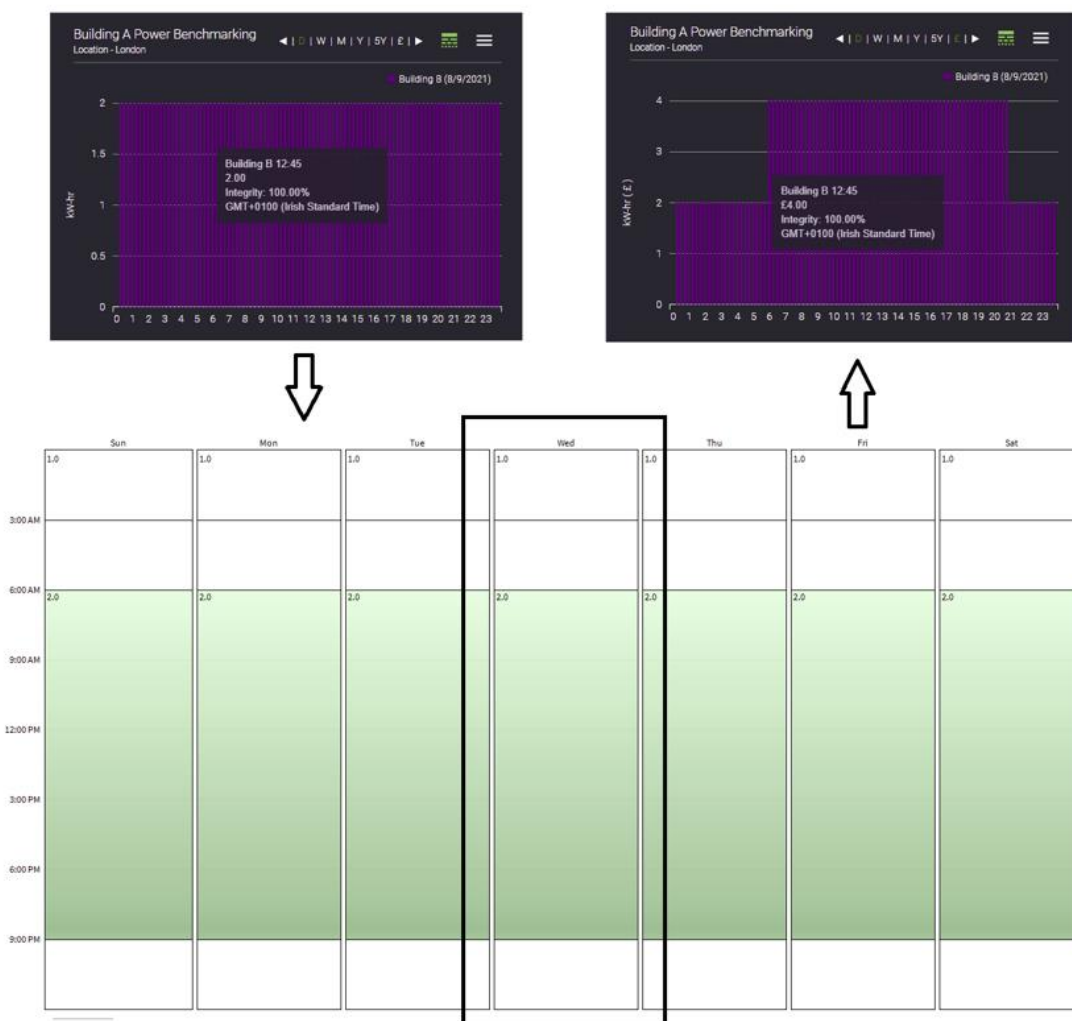

Figure TF5 – COST VALUE APPLIED TO THE DAILY CHART VIEW PERIOD
11. Open any N4EnergyManager chart on the station (see Figure TF5).